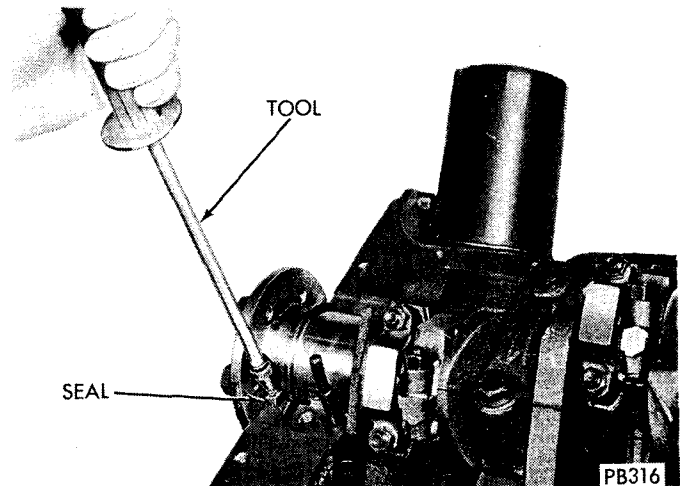

Fig. 49—Removing Upper Oil Seal with Tool C-4148
(1) With the oil pan and oil pump removed, remove the rear main bearing cap.
(2) Remove lower rope oil seal by prying from the side with a small screw driver.
(3) Remove upper rope oil seal by screwing Tool C-4148 into the end of the seal, being careful not to damage the crankshaft (Fig. 49). Pull the seal out with the tool while rotating the crankshaft.